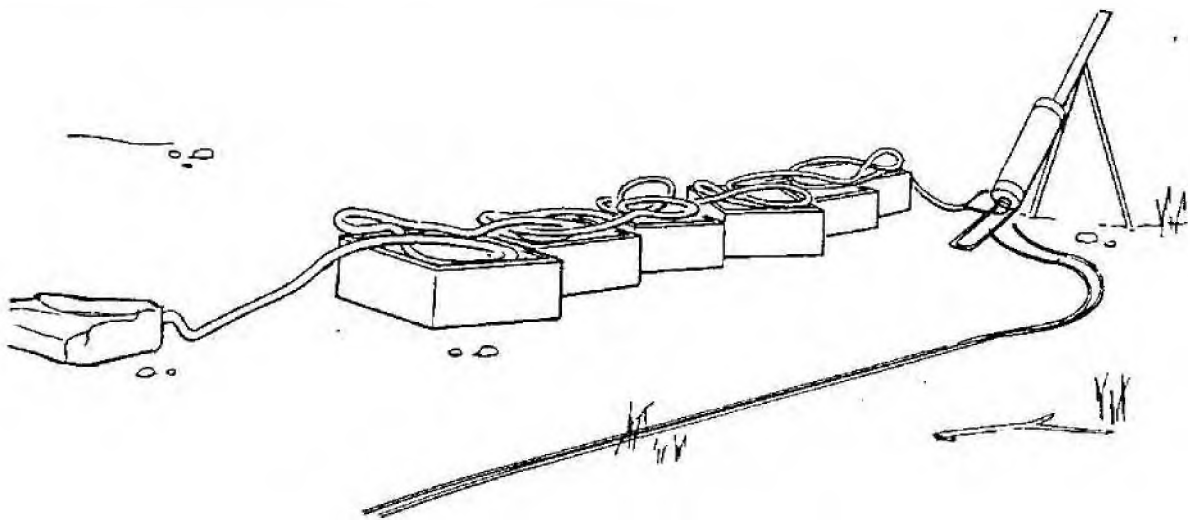

Figure 10-3. Mark 2 "Baby Viper" explosive line charge for antipersonnel minefield (United Kingdom).
(1) *The Mark 2 Baby Viper.* The Mark 2 Baby Viper (fig. 10-3) used for breaching minefields, is an explosive-filled hose 0.62 inch in diameter and more than 600 feet long; it is projected across an area by a rocket fired from a launcher and is then detonated. The unit consists of six boxes, each contains a coiled 100-foot section of explosive hose, a rocket launcher, and a 127-milimeter rocket.